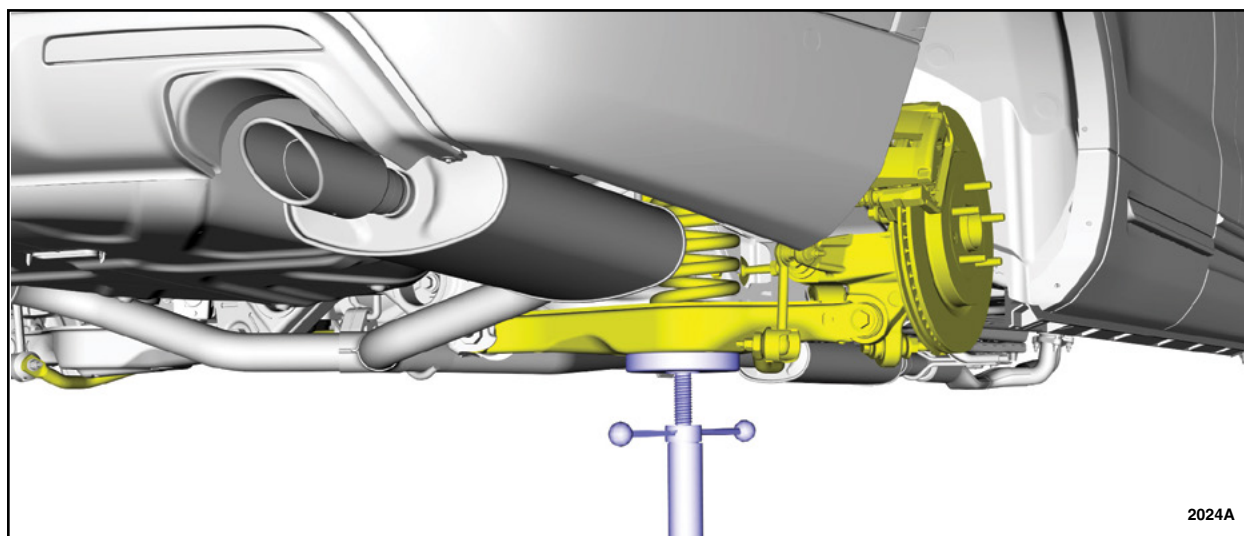

FIGURE 3
5. Using a jack stand, support the rear suspension to ride height. See Figure 3.